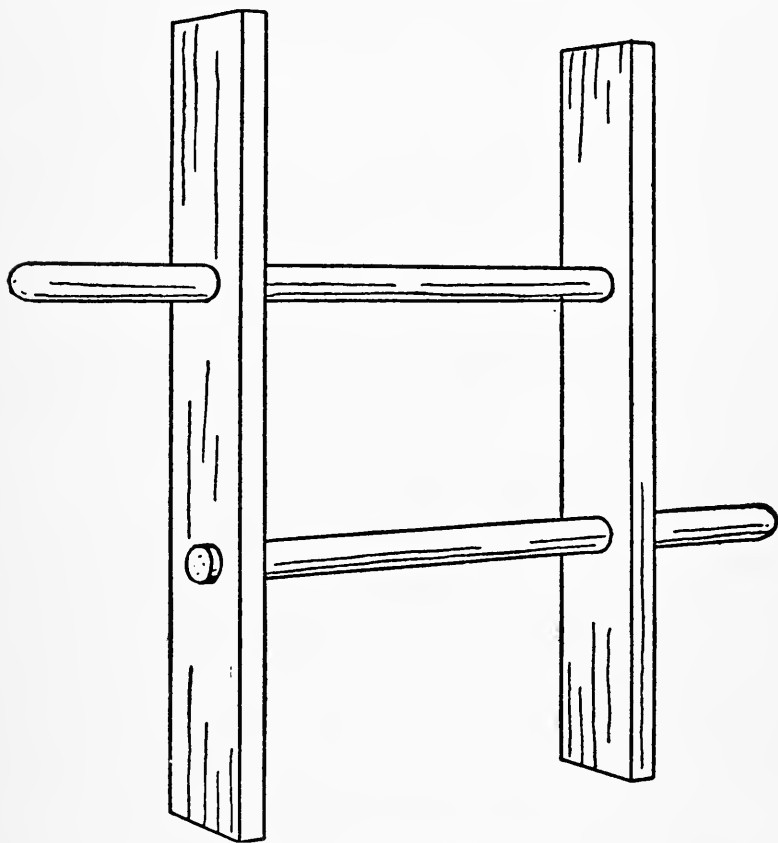

FIG. 45. -- A Clothes-line Reel.
**A Clothes-line Reel**, such as shown in Fig. 45, is an article no housekeeper should be without. Its use does away with twisted, tangled, and knotted clothes-lines.
long by three inches wide for the sides, and two pieces of broom-handles sixteen inches long for the horizontal rods (see Fig. 45). Five inches from each end of the side-pieces, bore a hole the size of the broom-handle.